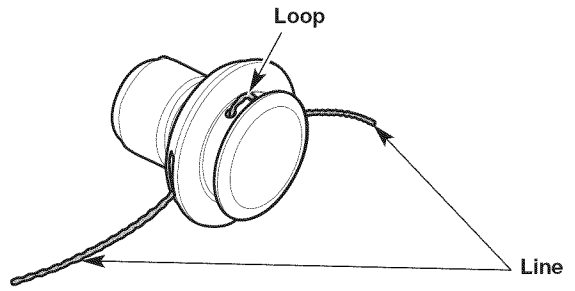

Fig. 23
4. Pull the ends of the line until the line is tight against the cutting head. Make sure the ends of the line are of equal length (Fig. 23). If one end is longer than the other, push the longer end back through the cutting head partway and pull the shorter end out. If necessary, repeat this process until both ends are of equal length.
5. Press the exposed loop of trimming line until it is tight against the cutting head (Fig. 23).